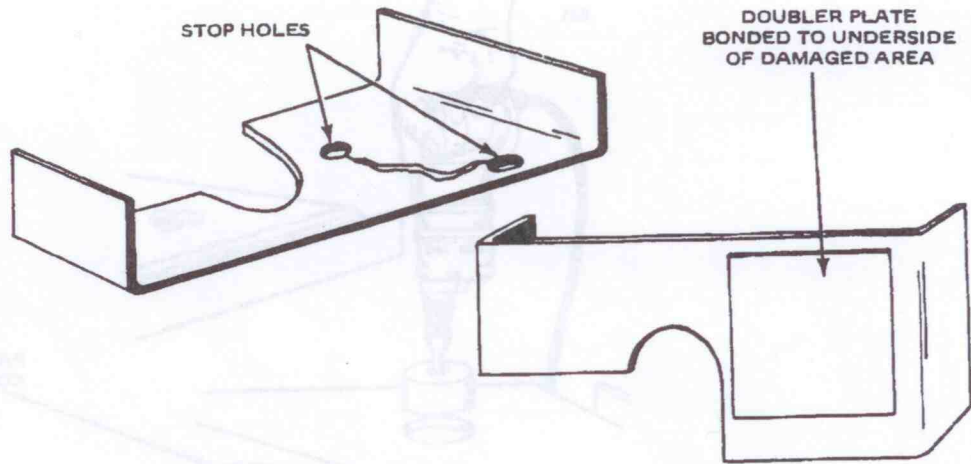

Figure 4-14. Repairing of Cracks.
d. Cracks: (Refer to Figure 4-14.)